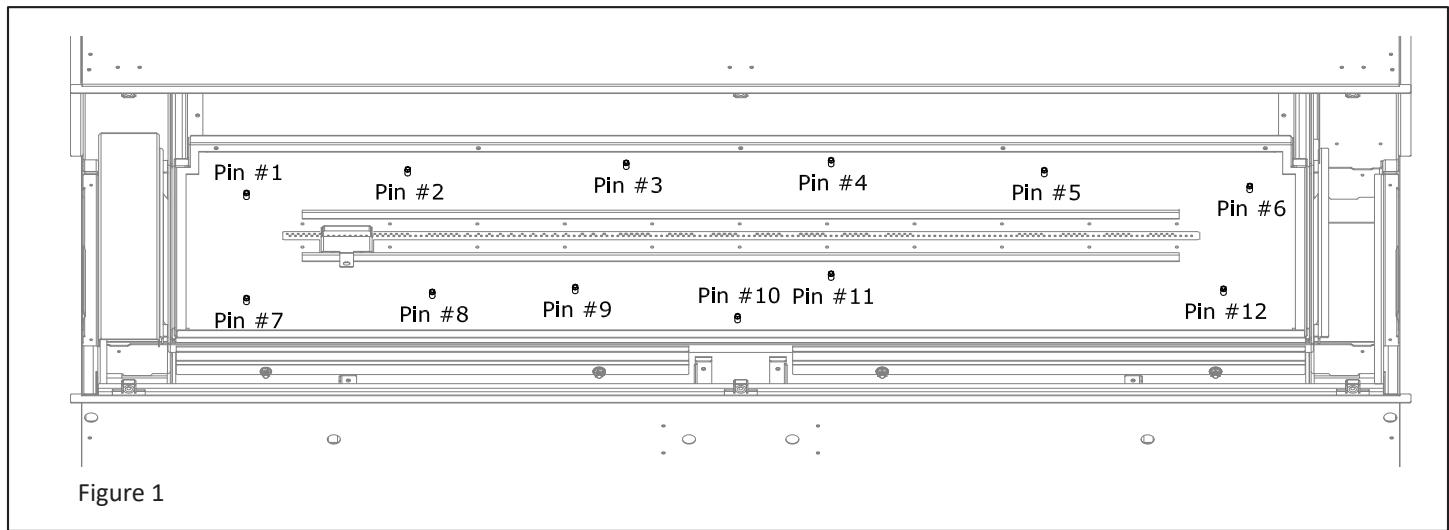

Figure 1
1. Locate the preinstalled pins on the burner media tray. See Figure 1. You will install the log set directly on the media tray before installing any crushed media.